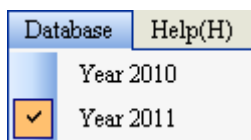

Fig.5-5
5.2.4 Database (main menu), as shown in Fig.5-5: